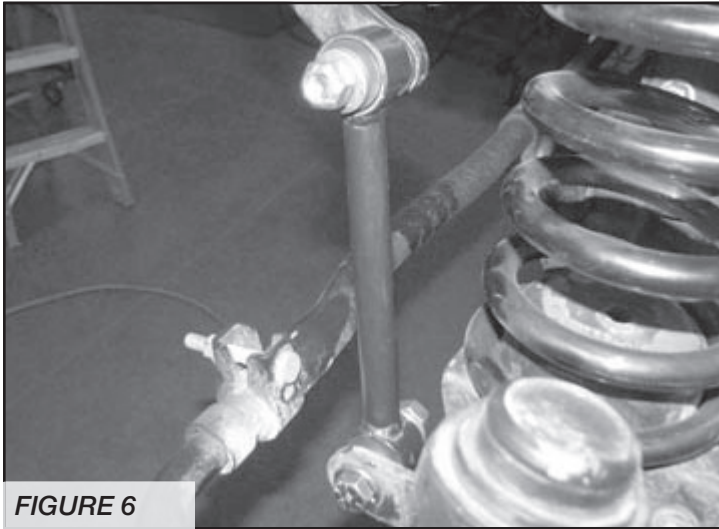

FIGURE 6
8. Locate FT50261BK Front Sway Bar End links, FT50048 & FT50089 bushing and sleeve kits. Press one bushing and one sleeve from the supplied bushing kit into each end of the end link. With the factory hardware, connect the new end link to the sway bar, then using the supplied $\frac{1}{2}$ " x 2-3/4" bolt, nut and washers, connect to the lower sway bar mount. Torque the upper hardware to 40 ft-lbs. and the lower hardware to 75 ft-lbs. SEE FIGURE 6